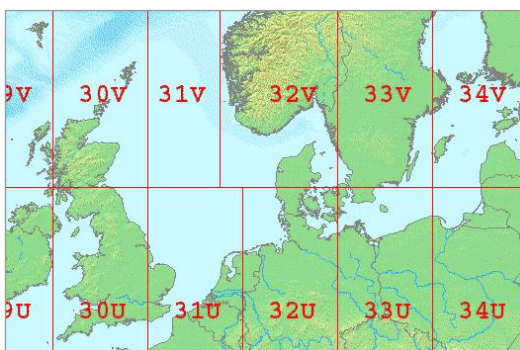

Figure 9: UTM cells in the North Sea
- **New projection:** Select map projection. It should be either **UTM31N_WGS84** or **UTM32N_WGS84** depending on the working area (Figure 9).